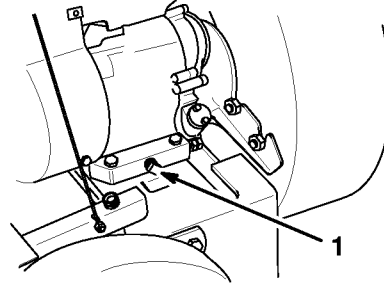

Figure 20
3. Clean area around drain plug (Fig. 20).